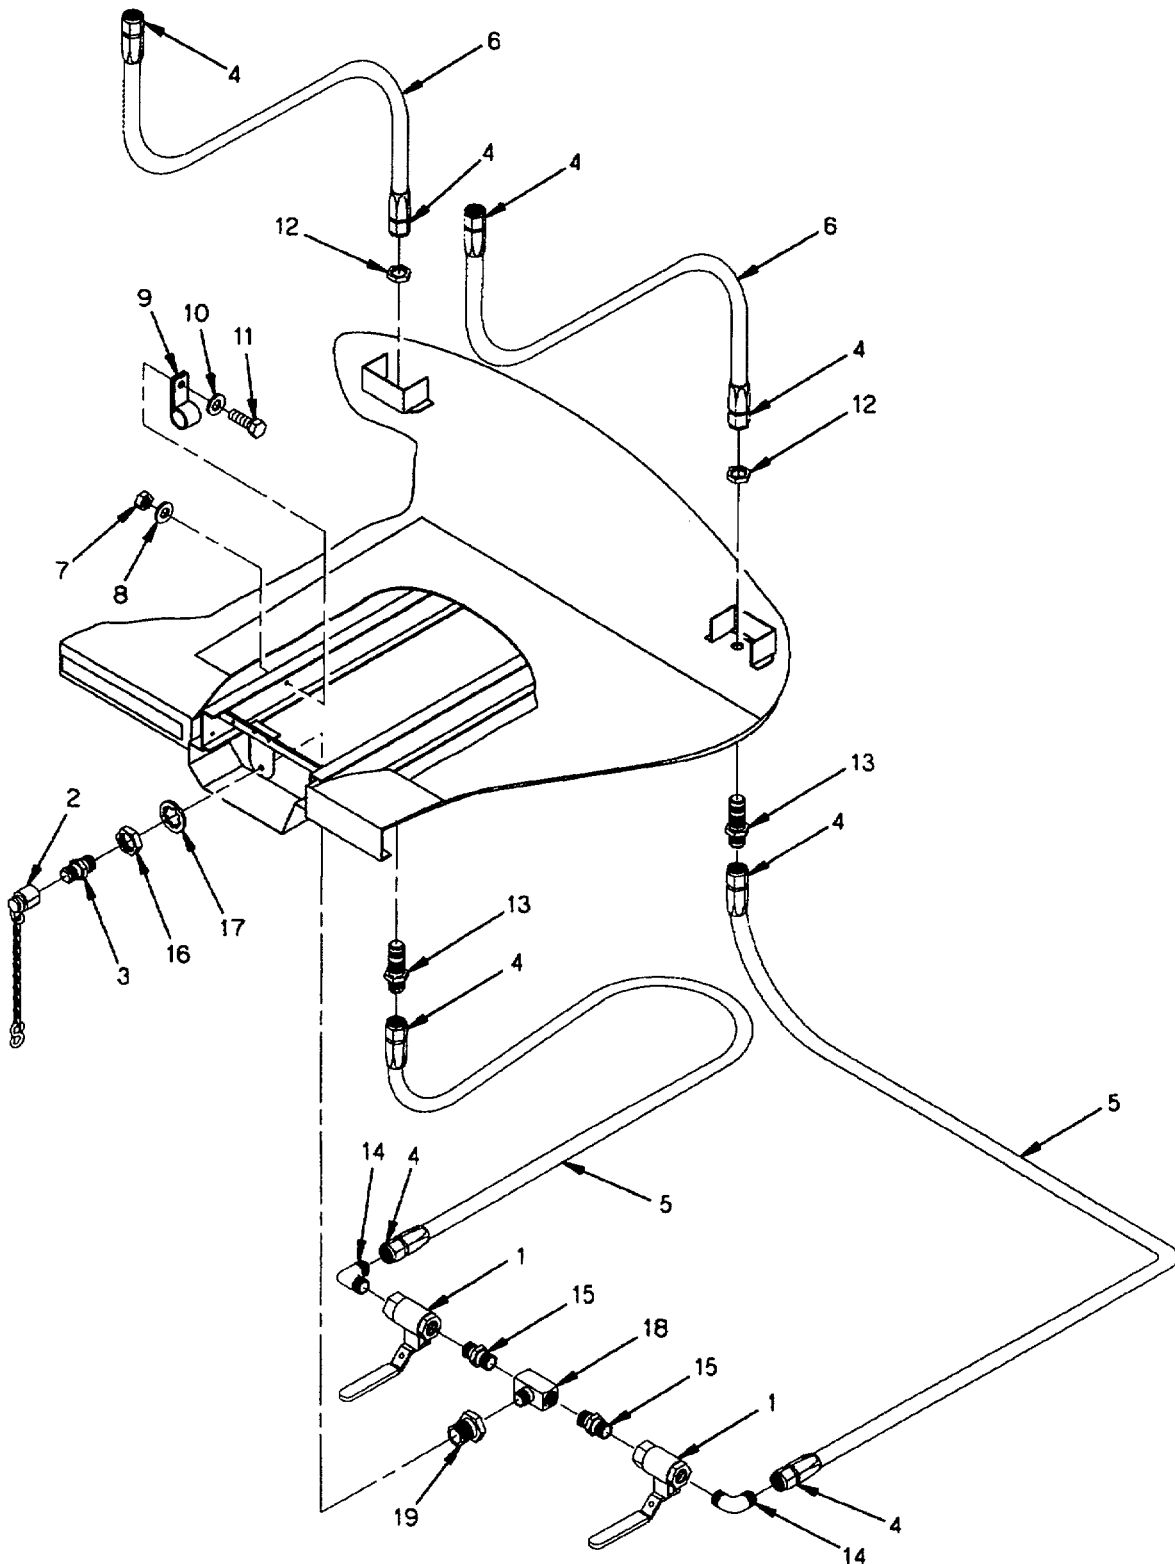
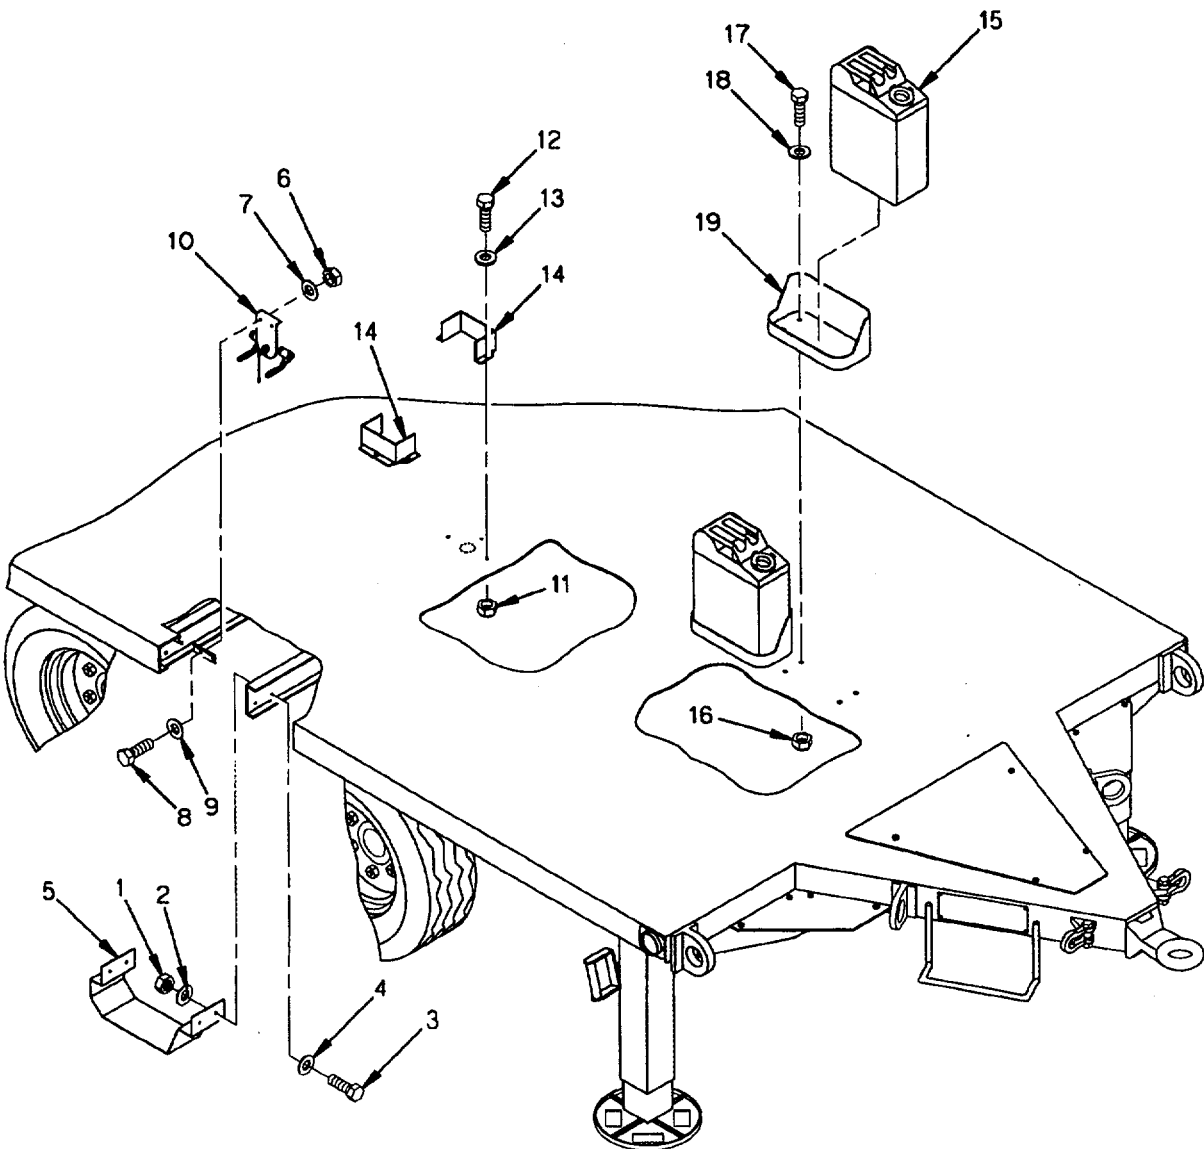

Figure 4-11. Fuel System Components.
Figure 4-12. Fuel System Bracket Components.
- a. Close both fuel valves (1, figure 4-11) and remove cap (2) from fuel fitting straight adapter (3).
- c. Disconnect hose fittings (4) on hose (5) and (6) and remove.
- d. Remove nut (7), flat washer (8) clamp (9), flat washer (10), and screw (11) securing fuel line to trailer chassis.
- e. Remove nut (12) and tube nipple (13).
- f. Remove elbow (14) valve (1), and pipe nipple (15).
- g. Remove straight adapter (3), self locking nut (16), and internal tooth washer (17).
- h. Remove pipe tee (18) and pipe coupling (19).
- b. Remove four self locking nuts (1, figure 4-12), flat washers (2), screws (3), flat washers (4), and remove fuel valve bracket (5).
- c. Remove two self locking nuts (6), flat washers (7), screws (8), flat washers (9), and remove fuel fill bracket (10).
- d. Remove two self locking nuts (11), fuel line shield (14), flat washers (13), and screws (12).
- e. Remove fuel can (15) from mounting bracket (19).
- f. Remove four self locking nuts (16), screws (17), flat washers (18), and remove bracket (19).
- a. Install bracket (19, figure 4-12), using flat washers (18), screws (17), and self locking nuts (16).
- b. Install fuel can (15) in mounting bracket (19).
- c. Install screws (12), flat washers (13), fuel line shield (14), and self locking nuts (11).
- d. Install fuel fill bracket (10), using flat washers (9), screws (8), flat washers (7), and self locking nuts (6).
- e. Install fuel valve bracket (5), using flat washers (4), screws (3), flat washers (2), and self locking nuts (1).
- a. Install pipe coupling (19, figure 4-11), and pipe tee (18).
- b. Install internal tooth washer (17), self locking nut (16), and straight adapter (3).
- c. Install pipe nipple (15), valve (1), and elbow (14).
- d. Install tube nipple (13) and nut (12).
- e. Secure fuel line to trailer chassis by installing screw (11), flat washer (10), clamp (9), flat washer (8), and nut (7).
- f. Connect hose fittings (4) on hoses (5) and (6).
- g. Close both fuel valves (1) and replace cap (2) on fuel fitting straight adapter (3).